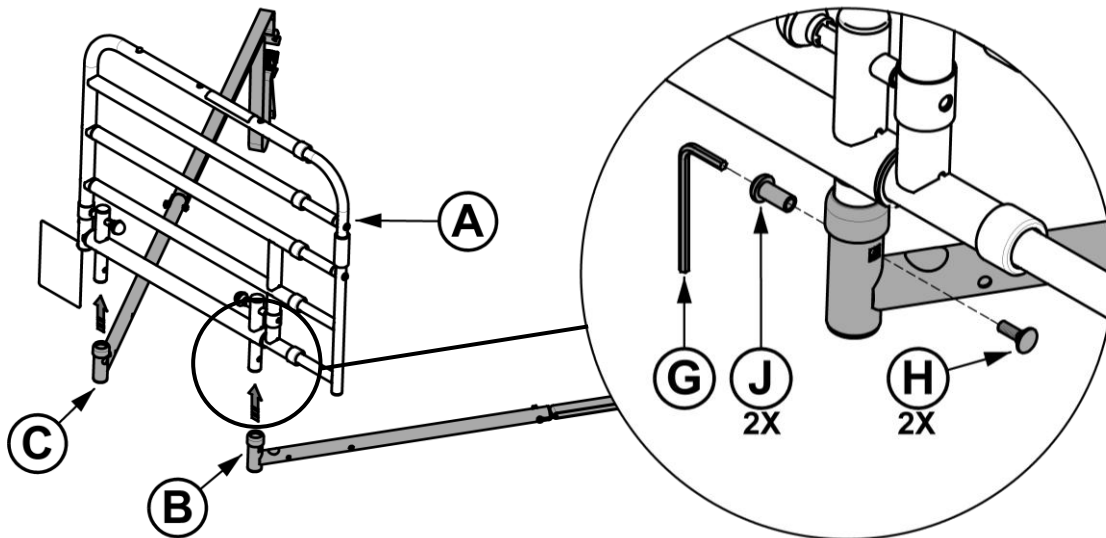

FIGURE 3
- Fit Leg **B** over post on Bed Rail **A** and align holes. Fully insert **H** in the square hole, then insert **J** from the other side and tighten using Tool **G** to secure Leg **B**, as shown in *FIGURE 3*. Repeat to attach Leg **C** to **A**.